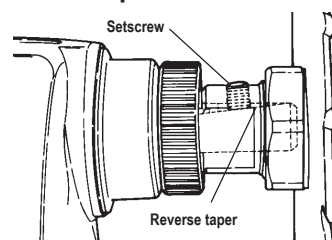

Figure C-77
- a. To properly mount an accessory, push it onto the main spindle **all the way**. Then use a 5/32" Allen wrench to tighten the setscrew against the flat of the spindle. (See Figure C-77.) To make sure the accessory is securely mounted, rock the accessory back and forth slightly as you tighten the setscrew and then again after it is tight, while keeping the spindle from turning. If the accessory seems to loosen, tighten the setscrew again until you've removed any "play."